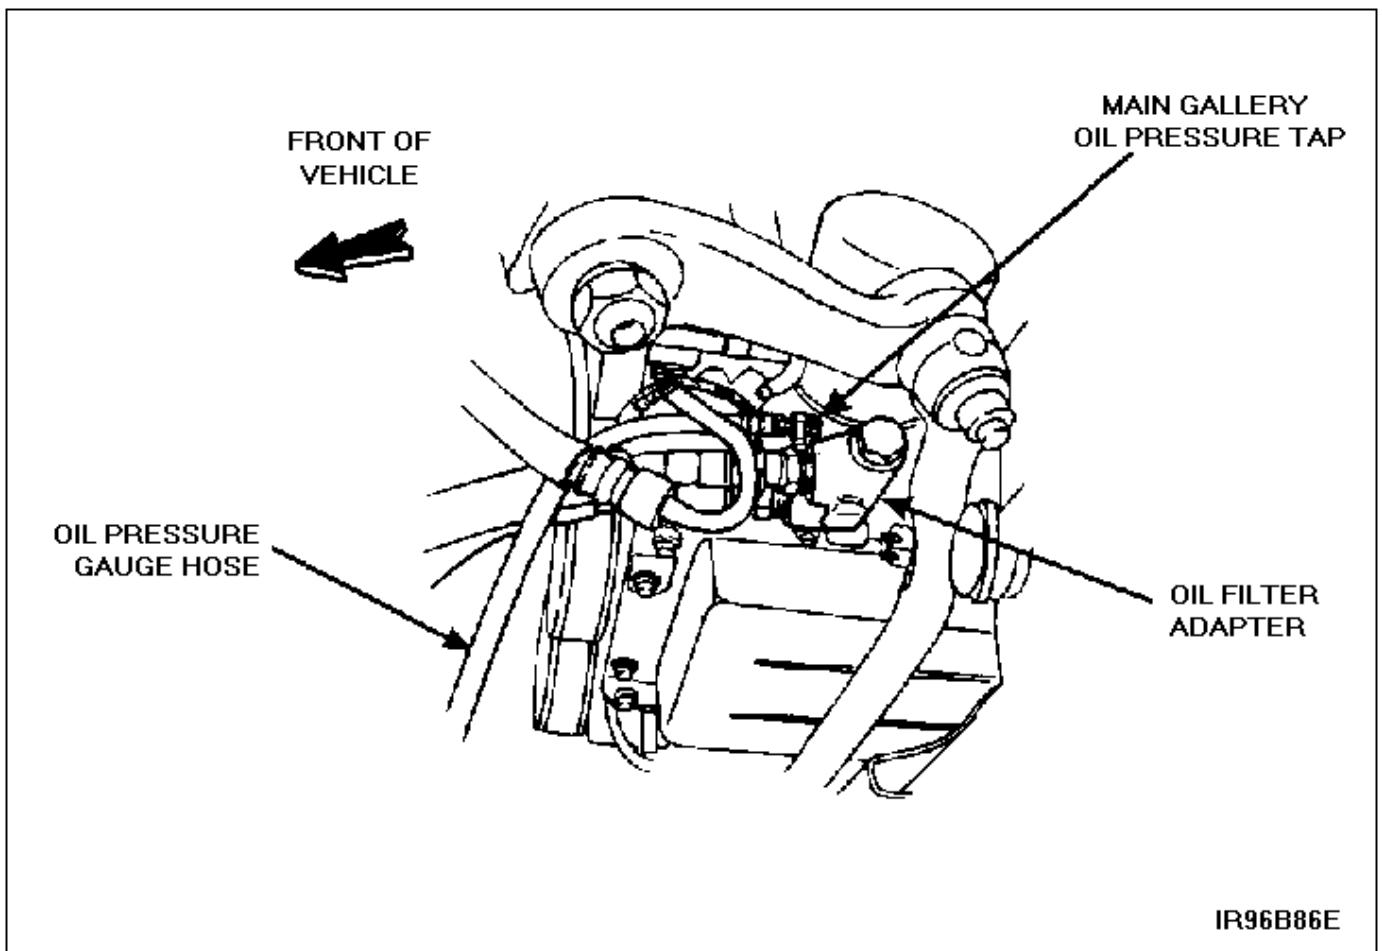

Figure 4
6. Connect oil pressure gauge to the oil pressure sending unit port on the adapter. See Figure 4.